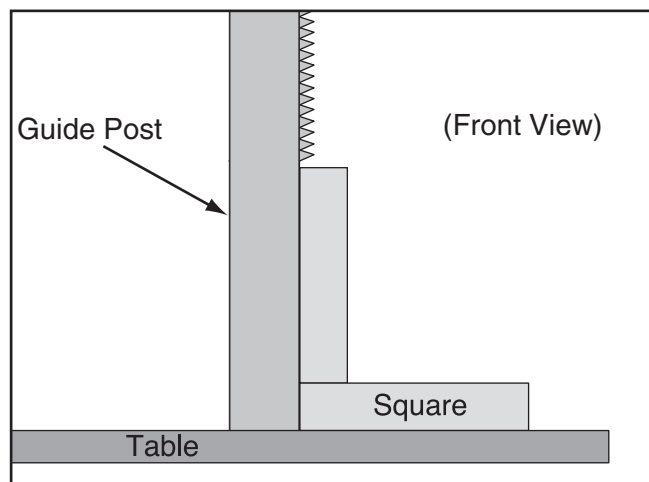

Figure 81. Example of checking guide post squareness.
6. Place a machinist's square on the table next to the right hand side of the guide post, as shown in **Figure 81**.